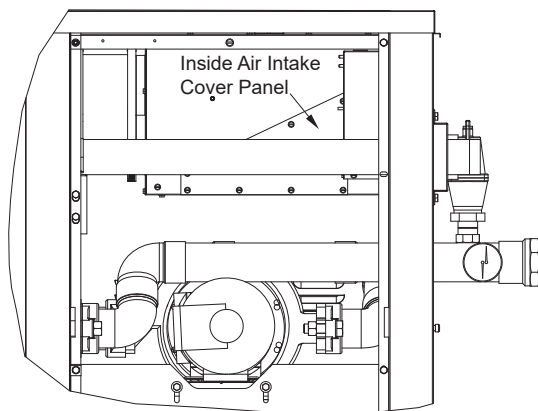

Figure 8. Install the Inside Air Intake Cover Panel
- From the right-rear side access area, install the inside air intake cover panel using the nine (9) hex-head screws provided. See **Figure 8**.